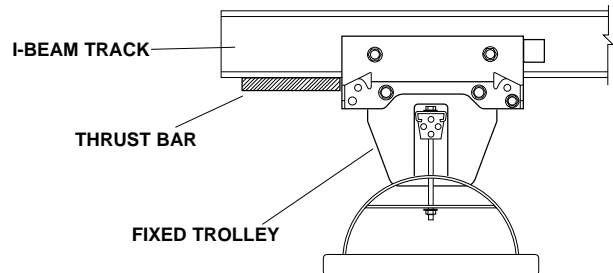

FIGURE 8–FIXED TROLLEY THRUST BAR
E. Weld or bolt a thrust bar to I-beam directly behind the fixed trolley to absorb impact forces. See Figure 8.